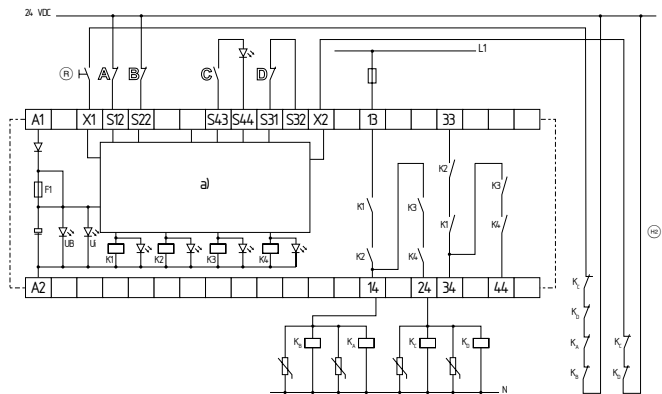

Fig. 3: SRB 400CA, 400CA/T, SRB 400CA/Q, SRB 400CA/QT
**Dual-channel control, shown for a emergency stop circuit; with two contacts A and B and a guard door monitor with two contacts C and D, where at least one is a positive break contact; with external reset button (related on the switch-off level 1) (see Fig. 3)**